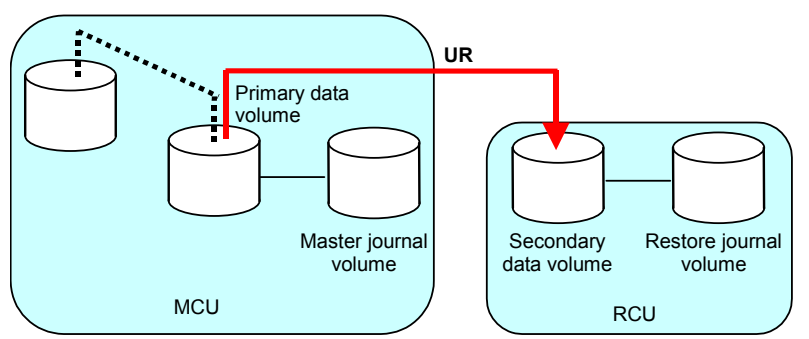

Figure 3-11 Restoring a ShadowImage P-VOL - Step 3
3. Execute the CCI **horctakeover** command on the UR pair to change the copy direction to the original direction and re-establish the pair (see Figure 3-11).